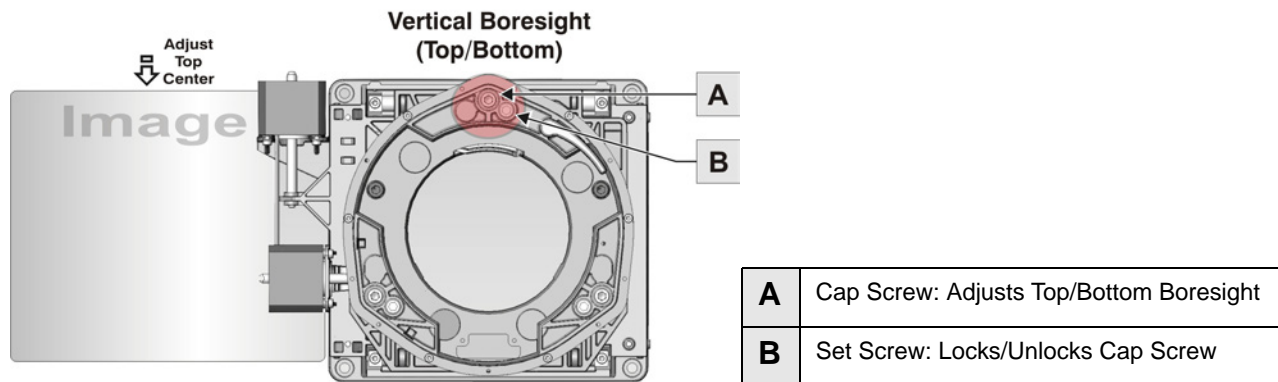

Figure 4-2 Top/Bottom Image Adjustment
4. Loosen the set screw. (Figure 4-2/B).
5. Turn the vertical adjust cap screw 1/8 of a turn counter-clockwise. (Figure 4-2/A).